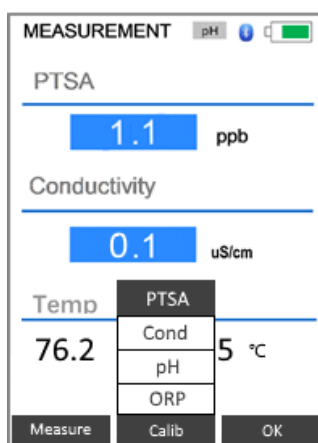

Figure 13
4. Press **Calib** and then **OK** to select **PTSA** (alone) calibration, as shown in Figure 13.
3. Press **Calib** (the > key) to launch the calibration selection screen (Figure 13). Press **Calib** again to select **Cond** (conductivity) calibration. Press **OK** to start the calibration procedure. The default conductivity calibration screen is the Combined Calibration (Figure 17). This will calibrate both Conductivity (at 1000 μ S) and PTSA (at 100 ppb) when using the Pyxis PTSA-1010C combined standard.
3. Press **Calib** (the > key) to launch the calibration selection screen (Figure 13). Press **Calib** again to select **Cond** (conductivity) calibration. Press **OK** to start the calibration procedure. A screen like Figure 16 appears. This is the default combined Calibration mode, which requires the Pyxis combined standard.
3. Press **Calib** to launch the calibration selection screen (Figure 13). Press **Calib** again to select **Cond** (conductivity) calibration. Press **OK** to start the calibration procedure. A screen like Figure 17 appears. This is the default combined Calibration mode, which requires the Pyxis combined standard.